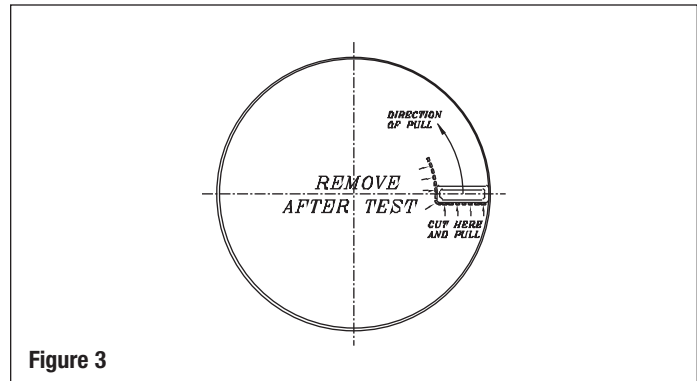

Figure 3
1. Locate the dotted cutting line near the pull handle on the top surface of the gasket (Figure 3).
3. Using a pair of long-handled channel lock pliers, grab the handle firmly and pull in a radial direction opposite of the cutting line (Figure 3).